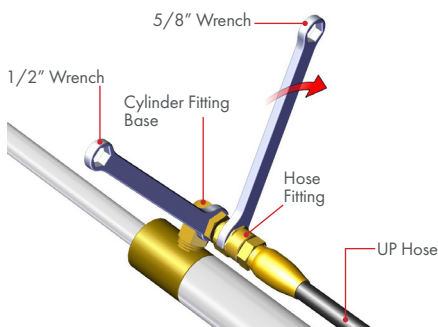

Figure 3
**STEP 3** Remove the **bottom cylinder** from the **upper u-channel** using a **1/2" socket & wrench**. Push bottom of cylinder up into **u-channel** and slide it forward past the **ram spacers** to remove it. **FIG 3**
**STEP 8** Hold the **cylinder fitting base** with a **1/2" wrench** and tighten the **hose fitting** clockwise a quarter turn with a **5/8" wrench**. **FIG 3**